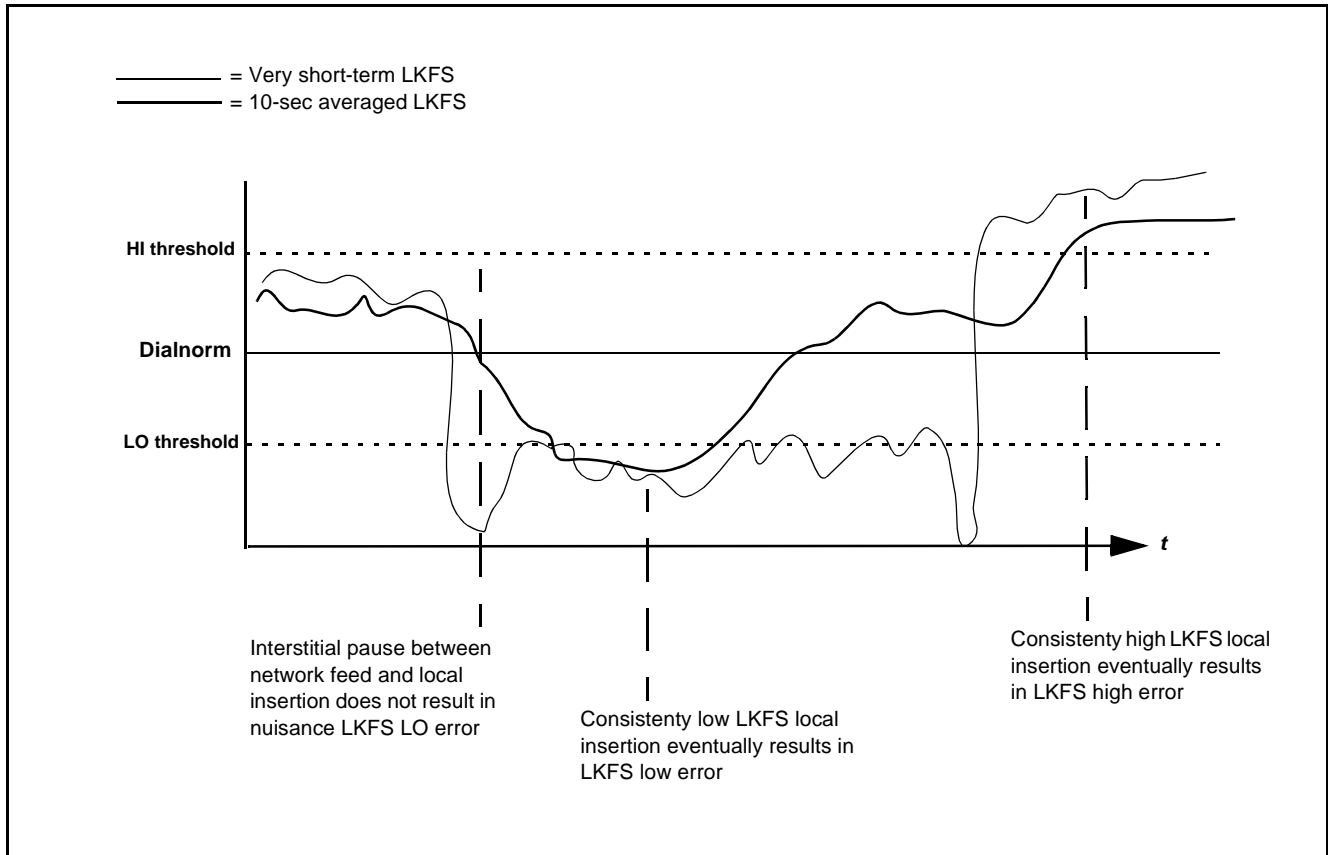

Figure A-5 Long-Form Simplified Measurement
**Long-Form Simplified Measurement.** (See Figure A-5.) Post-production long-form material can in many instances be easily assessed by applying a rather long **Measurement Window** (in this example, 10 seconds). In this manner, the typically brief loudness variations in professionally produced material (or breaks between material) will not result in nuisance errors. However, if the material exhibits a consistent gross deviation from the selected target LKFS or dialnorm (for example, due to level imbalance between a network feed and local insertion), the averaging period is conversely likely to be sufficiently short as to show a level-triggered error somewhere over the course of the offending material.